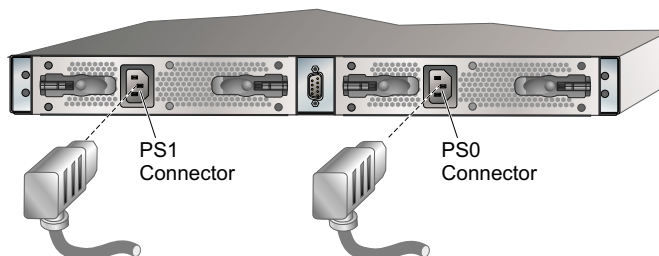

Figure 2-5 AC Power Connections
4. Connect both AC power cords to the right (PS0) and left (PS1) receptacles at the rear of the chassis as shown in Figure 2-5.
5. Connect both AC power cords to the right (**PS0**) and left (**PS1**) receptacles at the rear of the chassis as shown in Figure 2-5 on page 2-11.